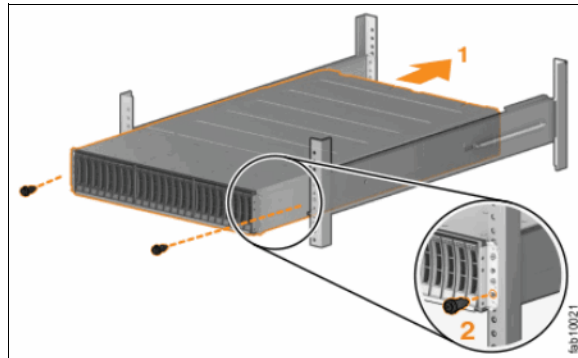
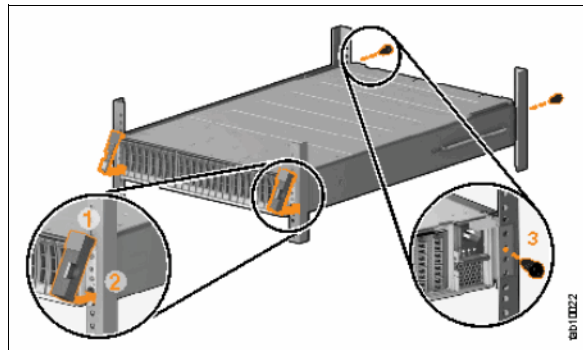

Figure 6-35 Inserting the expansion enclosure in the rack
Figure 6-36 Securing the expansion enclosure to the rack
- Slide the expansion enclosure into the rack until it is fully inserted. See Figure 6-35.
- Secure the enclosure with screws in the rack mounting screw holes. See Figure 6-35 and Figure 6-36.